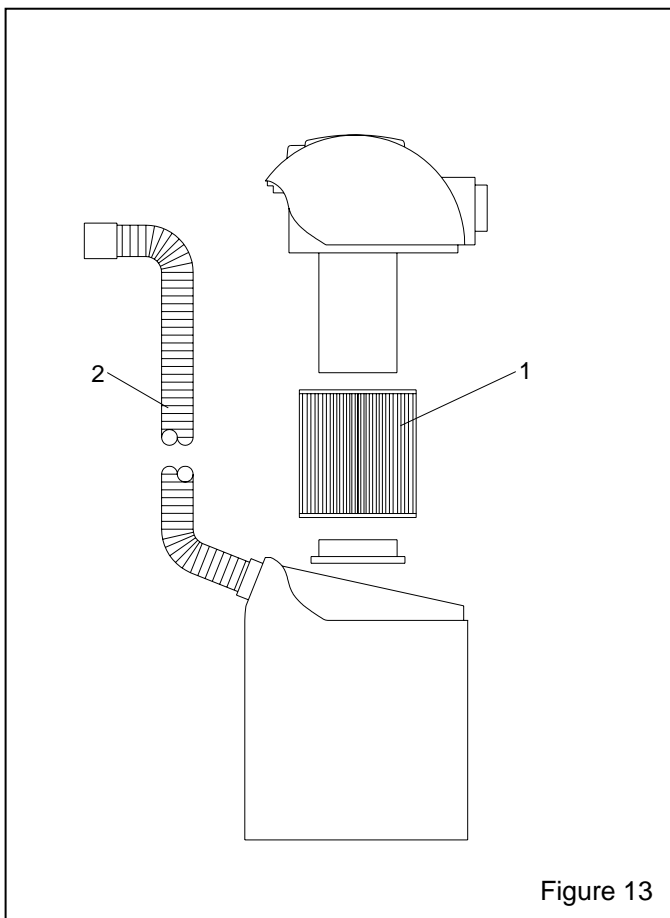

Figure 13
**8.1 Vacuum Collector, Figure 13**